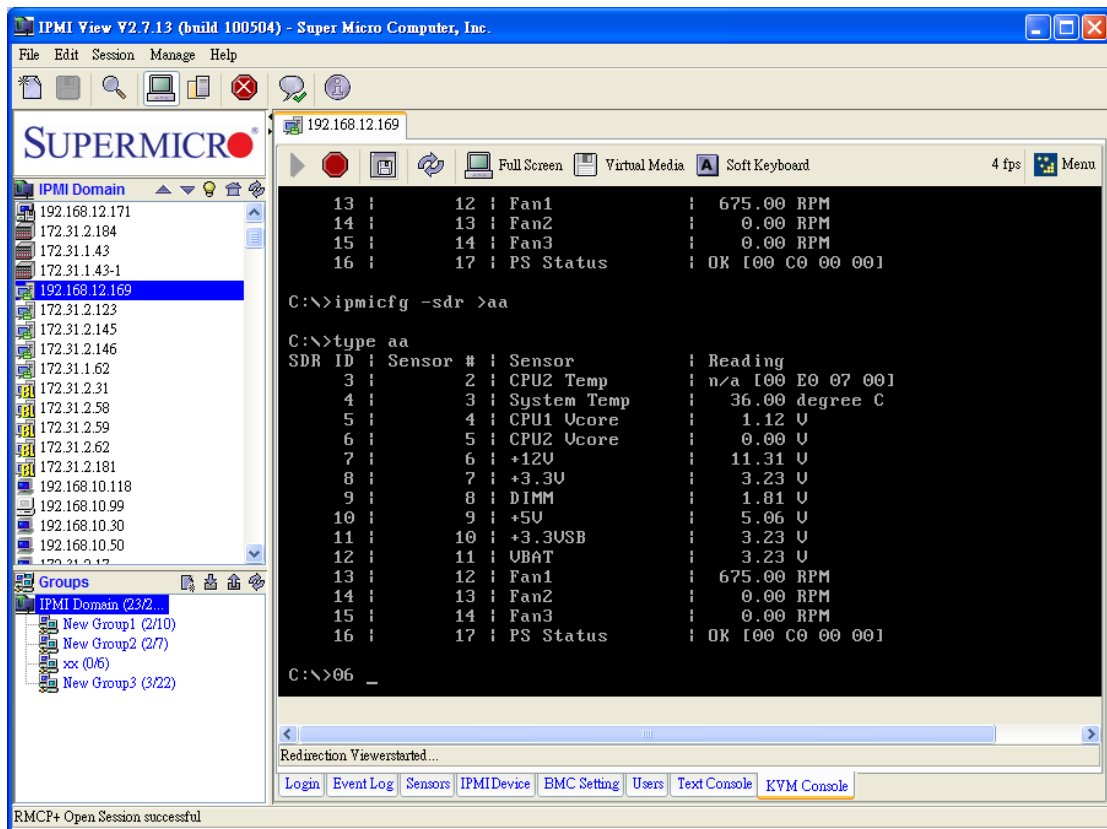

Figure B-1 SIM(W) KVM Console Main Screen
SIM(W) KVM Console allows the user to perform console redirection via KVM (Keyboard/Video/Mouse) support as shown in Figure B-1.